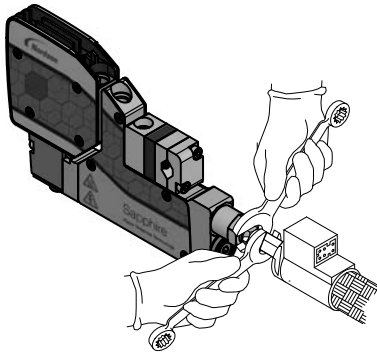

Figure 8: Connecting the hose
1. Refer to Figure 8. Connect the hydraulic hose to the applicator using two 11/16" wrenches.